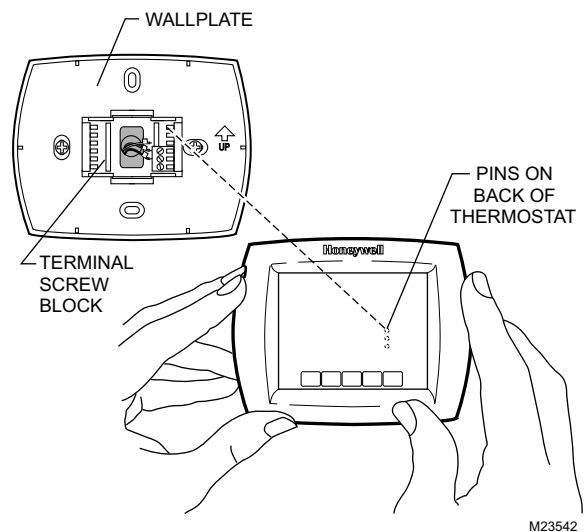

Fig. 22. Mount thermostat to wallplate.
1. Align the terminal screw blocks with the pins on the back of the thermostat. Push the thermostat straight onto the wallplate until it snaps into place. See Fig. 22.